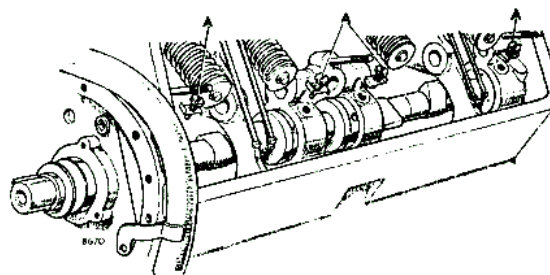

Fig. A-6—Camshaft bearing location bolts
3. Line up the locating holes in the bearings and housings, and before replacing the set bolts, squirt oil down the holes to lubricate the bearings until oil pressure is built up. Replace set bolts. See Fig. A 6.